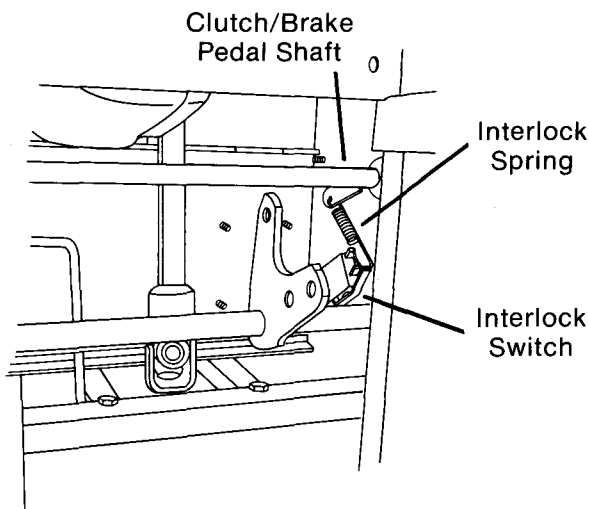

FIG. 55
- B. Detach clutch/brake pedal interlock spring from clutch/brake pedal shaft. (Fig. 55)